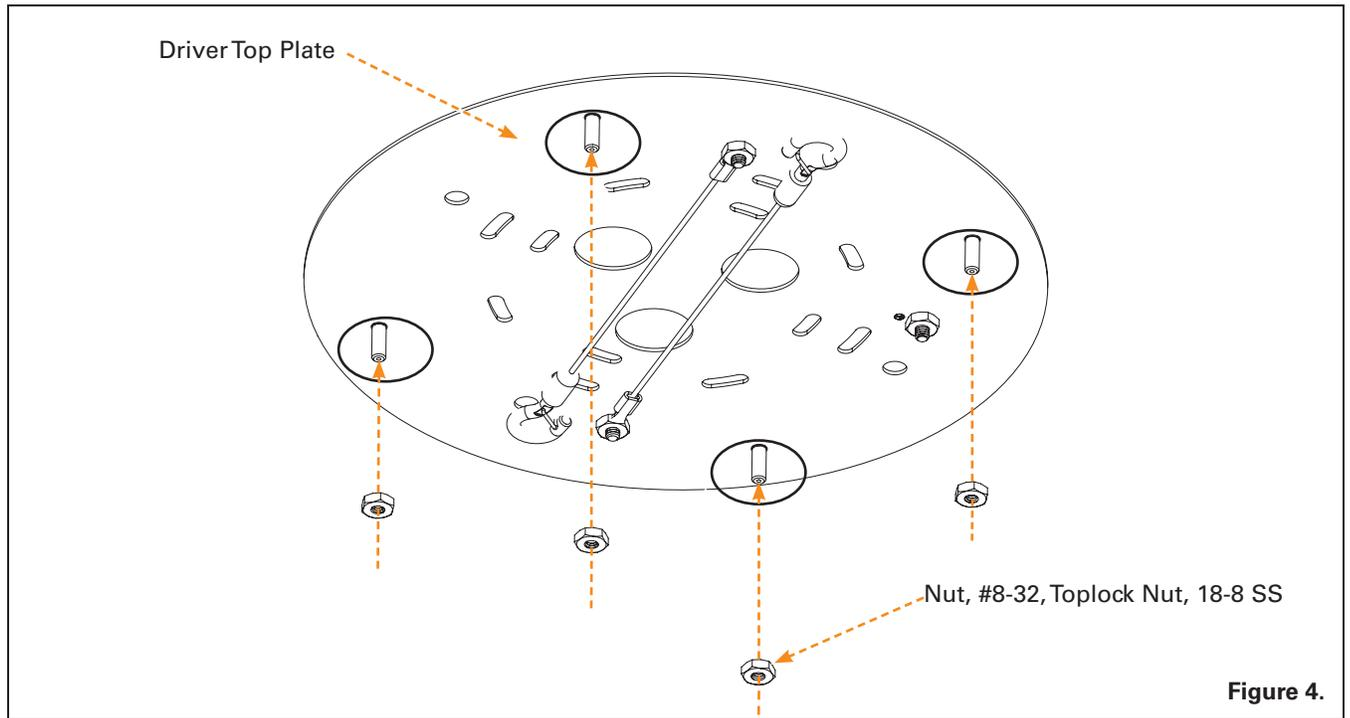

Figure 4.
Step 2. Preload the Top lock nut to the Driver top plate. Figure 4